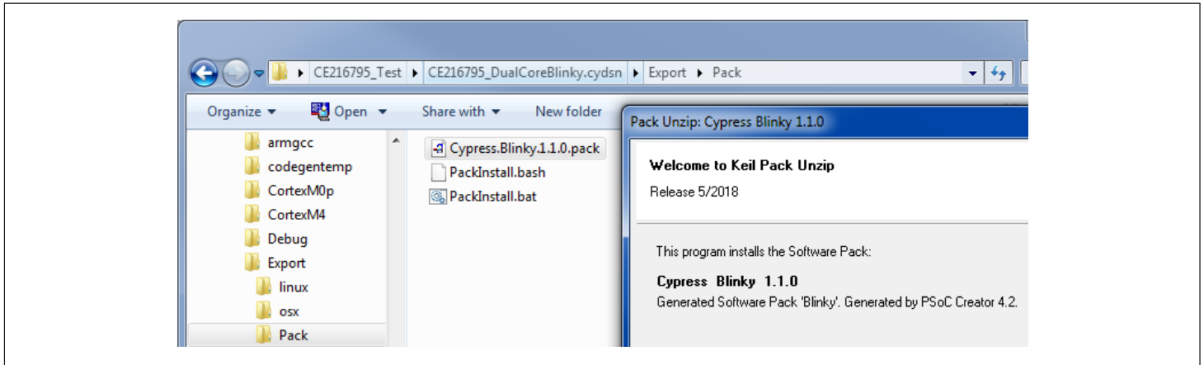
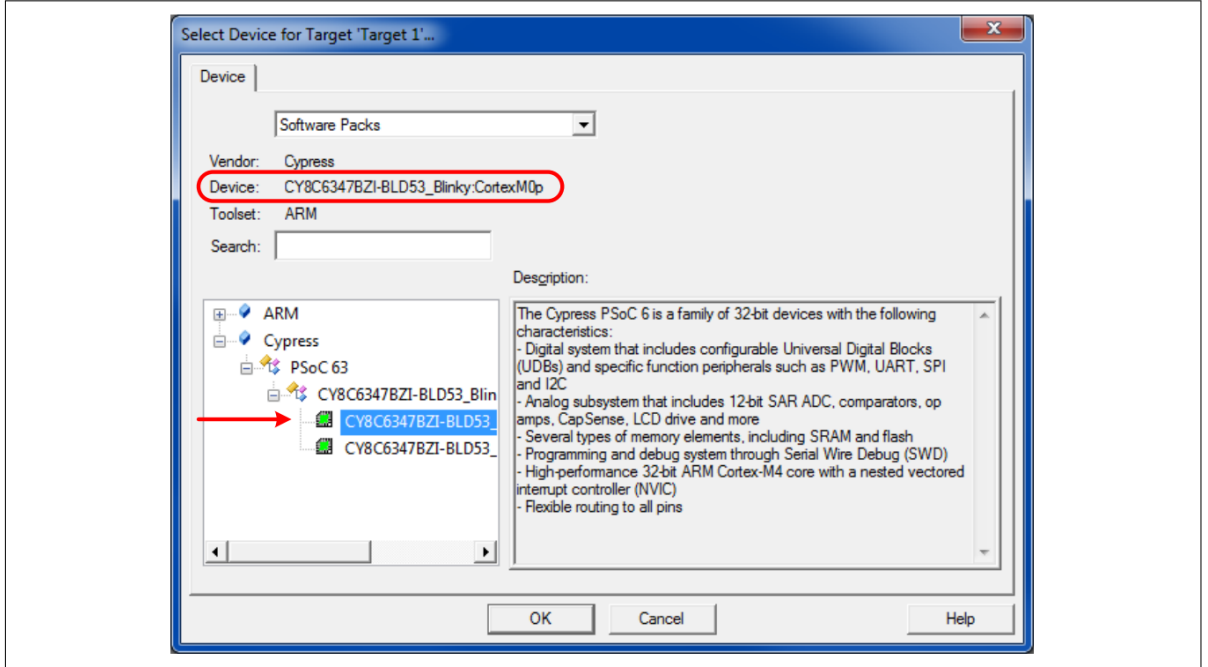

Figure 12 Install μ Vision pack from PSoC™ Creator project
Figure 15 Select CM0+ as the project device
For µVision, after the PSoC™ Creator project is built, find the corresponding .pack file in the folder Export \ Pack. Double-click the file to install it as a µVision pack, as Figure 12 shows.
After you click **Save**, a **Select Device for Target ‘Target 1’...** dialog box is displayed. The two PSoC™ 6 MCU CPUs that were defined in the previously installed pack (Figure 12) are displayed. Select the CM0+ CPU, as Figure 15 shows. Click **OK**.
- Select the CM4 CPU from the previously installed pack; see Figure 15